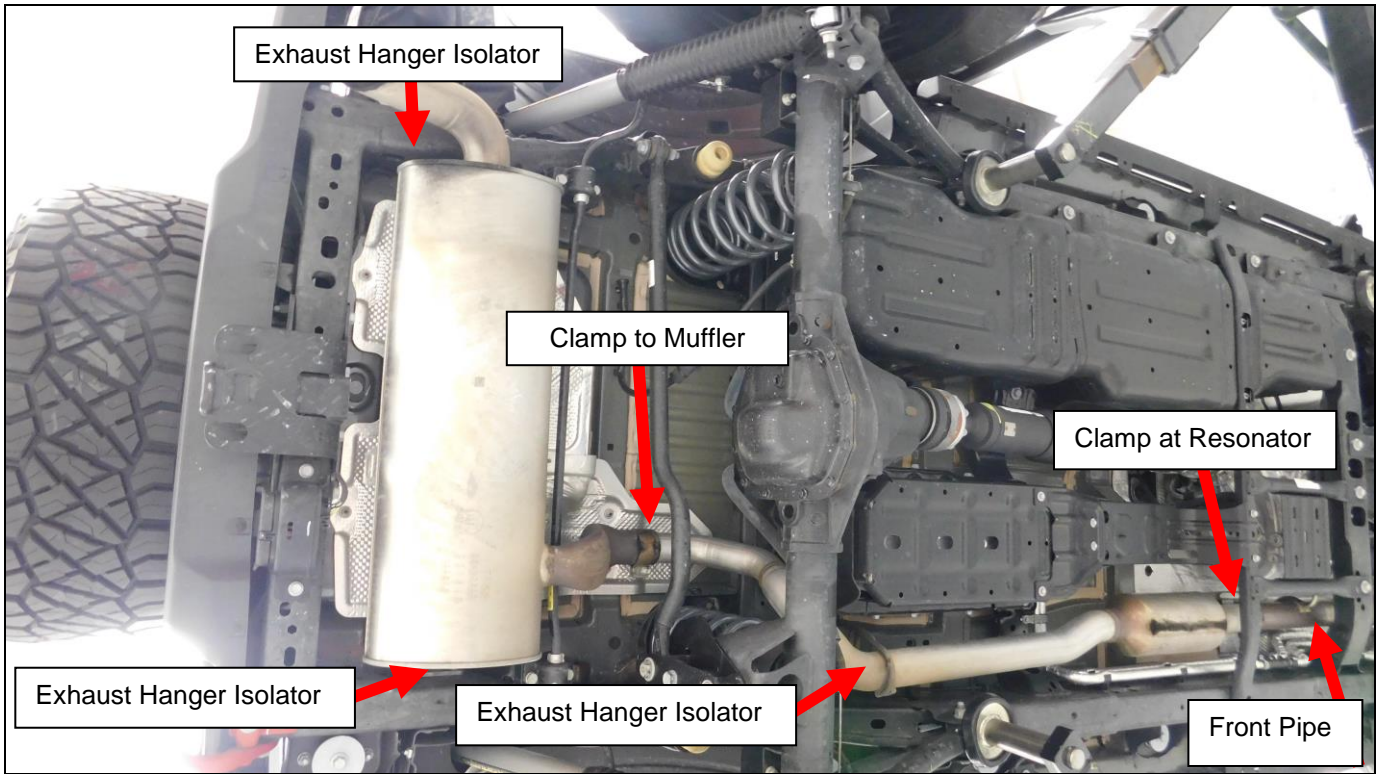

Figure 1
5. Remove the bolt at the clamp securing the resonator and exhaust to the OEM Front pipe (**Figure 1**).
6. Remove the isolator from the hanger rod on the exhaust pipe after the resonator (Figure 1).